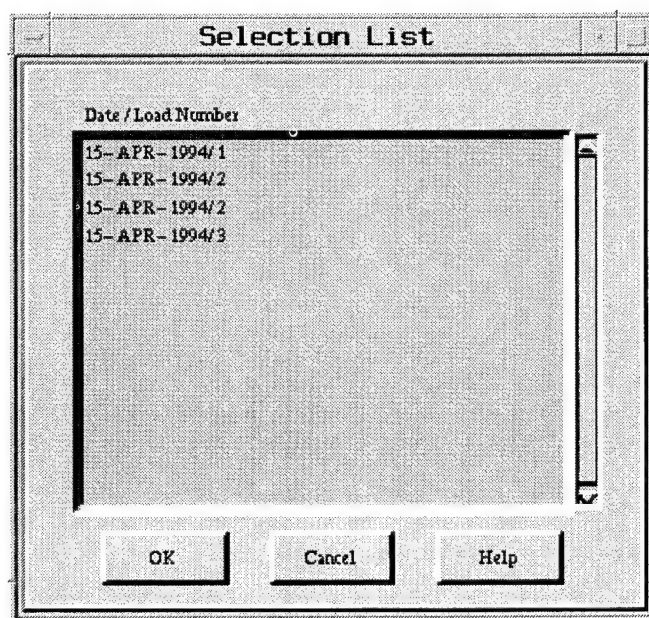

Figure 42. **Date and Load Number Selection List** screen
- Click on the **pull-down** button to the right of the **Load Number** field to display a list (Figure 42) of the dates and load (trip) numbers available in the database for the project, contract ID, and dredge selected.